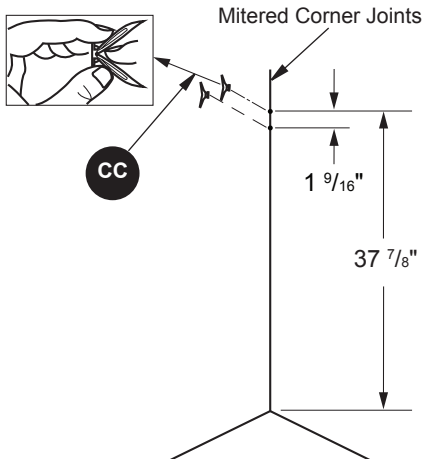

Figure 40
13. Drill two holes (5/16") in the corner where the fireplace is to be displayed. Drill the first hole 37 7/8" from the ground up. Drill the second hole 1 9/16" from the first hole as shown in Figure 40. Place 2) Wall Anchors (CC) into holes by pinching the anchor tabs together as shown in Figure 40.